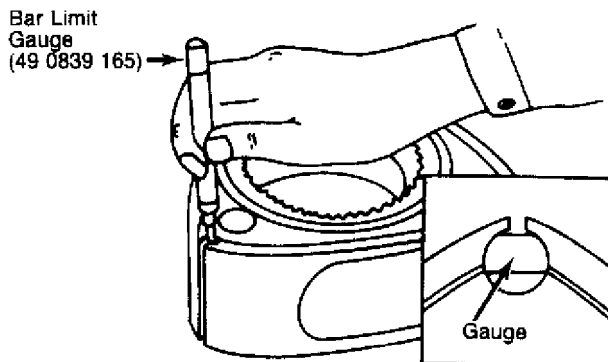

Fig. 17: Checking Corner Seal Bore Measurement
2) Measure corner seal bore wear in rotor using Gauge (49 0839 165). See Fig. 17.